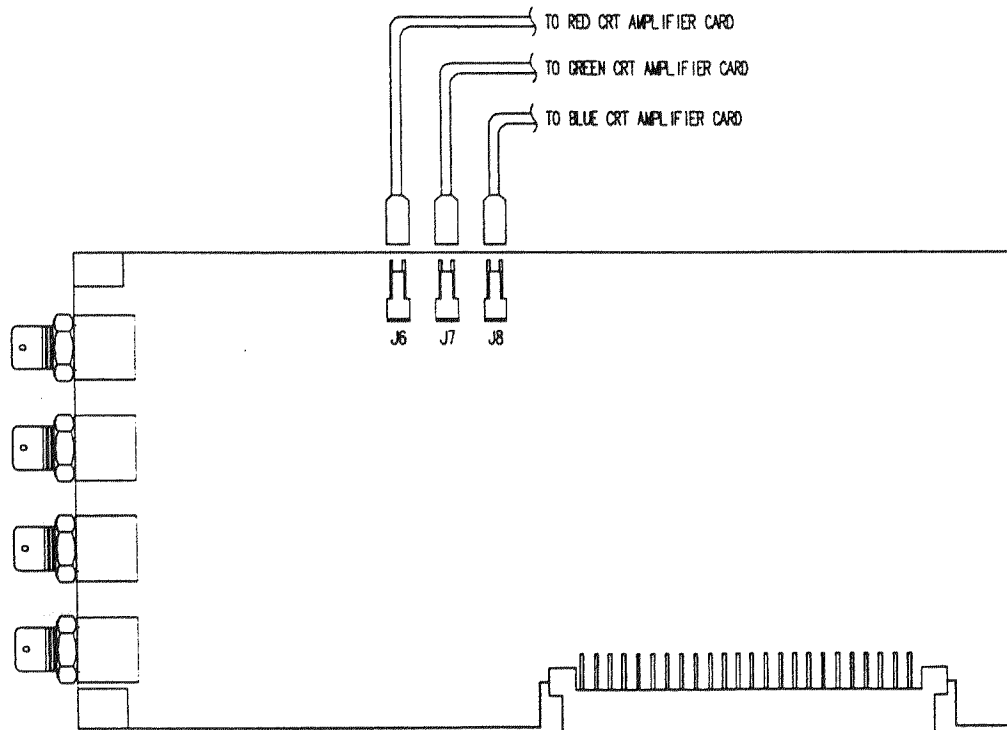

FIGURE 10-4. RGB1 module replacement.
- STEP 3. On the RGB1 module (second module from the left, as viewed from the rear). Remove the three (3) mini coax cables located midway on the module. See Figure 10-4.
- STEP 4. Remove the two (2) each 4-40 phillips screws securing the RGB1 module to the rear panel, lift the RGB1 module straight up and out.
- STEP 6. Re-connect the three (3) mini coax cables, in their proper order to their respective connectors on the RGB1 module. See Figure 10-4.